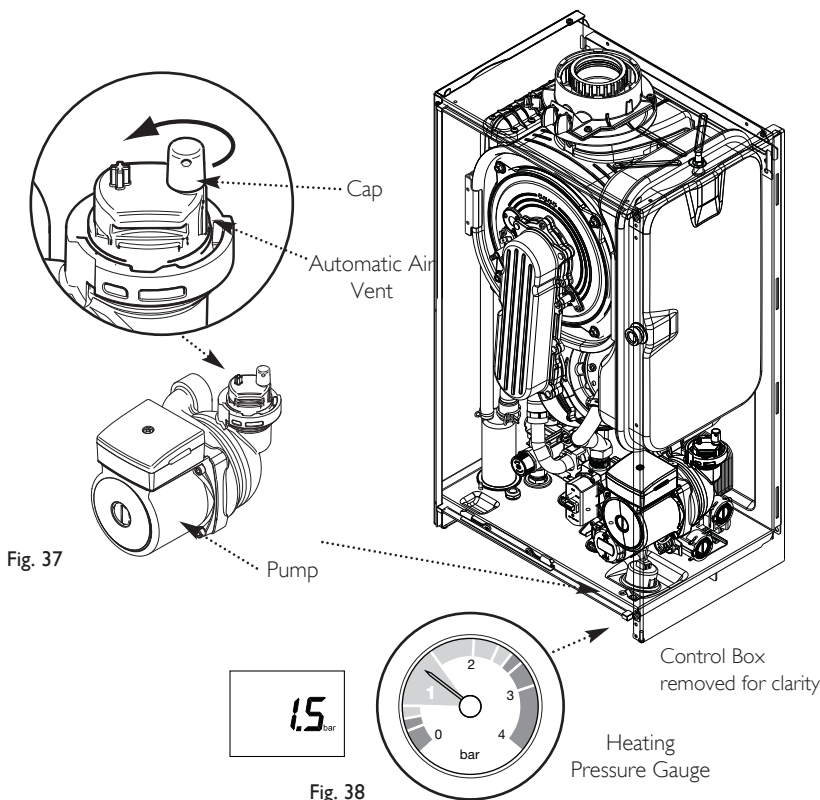

Fig. 37
4. Ensure that the filling loop is connected and open, then open the heating flow and return valves on the boiler. Ensure that the cap on the automatic air vent on the pump body is opened (Fig. 37).